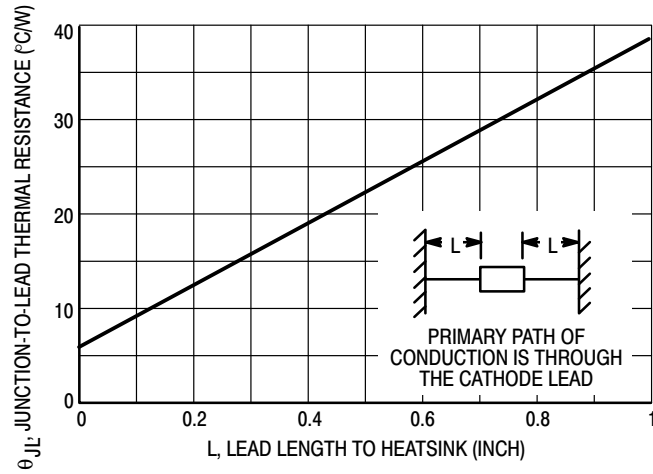
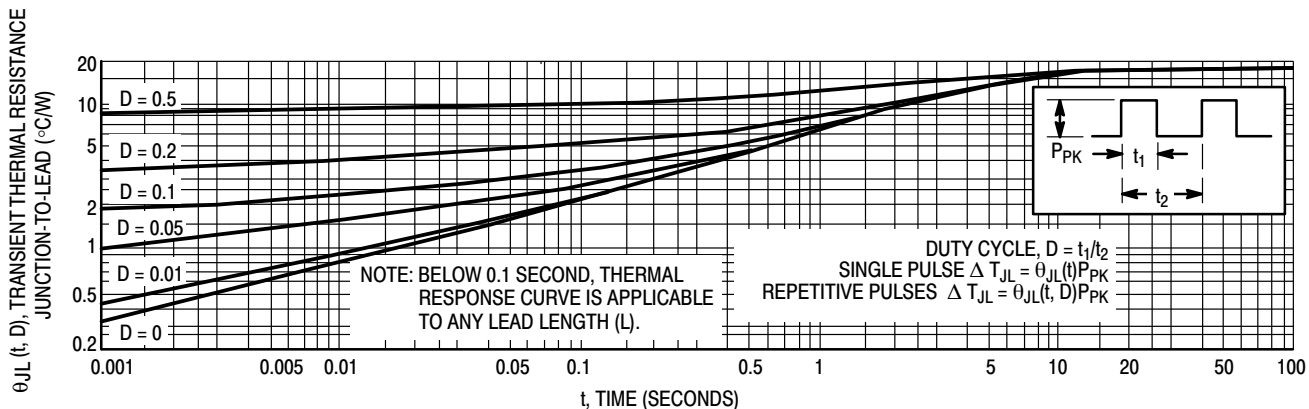
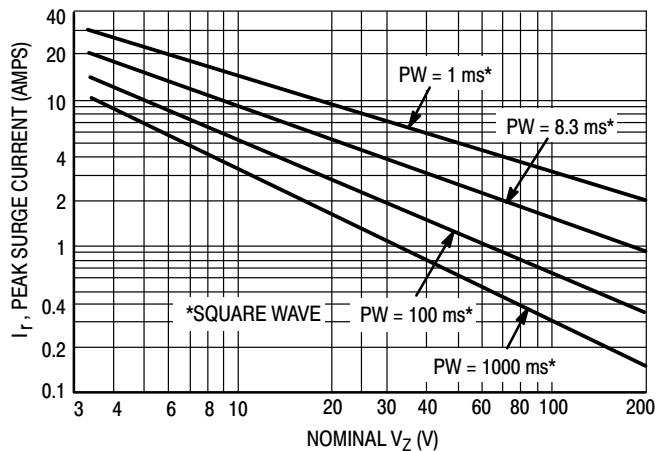
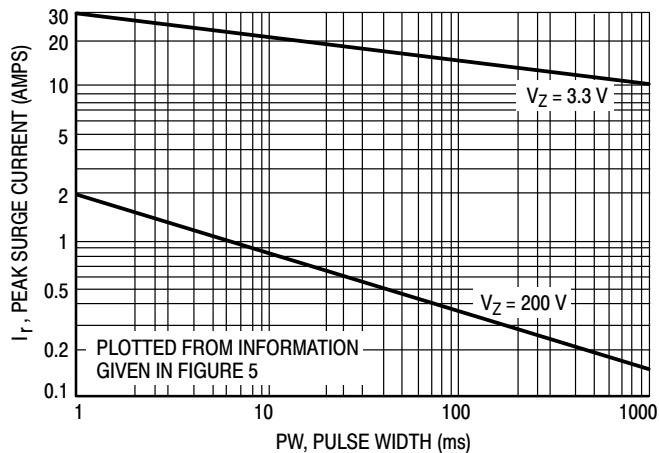

Figure 1. Typical Thermal Resistance
Figure 4. Typical Thermal Response
Figure 5. Maximum Non-Repetitive Surge Current
Figure 6. Peak Surge Current versus Pulse Width
- SURGE CURRENT ( $I_R$ ):** Surge current is specified as the maximum allowable peak, non-recurrent square-wave current with a pulse width, PW, of 8.3 ms. The data given in Figure 5 may be used to find the maximum surge current for a square wave of any pulse width between 1 ms and 1000 ms by plotting the applicable points on logarithmic paper. Examples of this, using the 3.3 V and 200 V zener are shown in Figure 6. Mounting contact located as specified in Note 2 ( $T_A = 25^\circ\text{C} + 8^\circ\text{C}, -2^\circ\text{C}$ ).
8. **SURGE CURRENT (IP):** Surge current is specified as the maximum allowable peak, non-recurrent square-wave current with a pulse width, PW, of 8.3 ms. The data given in Figure 5 may be used to find the maximum surge current for a square wave of any pulse width between 1 ms and 1000 ms by plotting the applicable points on logarithmic paper. Examples of this, using the 3.3 V and 200 V zener are shown in Figure 6. Mounting contact located as specified in Note 7 (TA = 25°C +8°C, -2°C).
$\Delta T_{JL}$  is the increase in junction temperature above the lead temperature and may be found from Figure 4 for a train of power pulses or from Figure 1 for dc power.
Data of Figure 4 should not be used to compute surge capability. Surge limitations are given in Figure 5. They are lower than would be expected by considering only junction temperature, as current crowding effects cause temperatures to be extremely high in small spots resulting in device degradation should the limits of Figure 5 be exceeded.